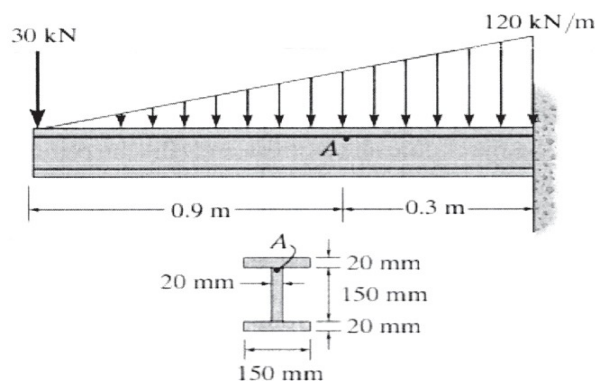

figure 5
- Q7) a)** The wide-flange beam is subjected to the loading shown in figure 5. Determine the principal stress in the beam at point A, which is located at the top of the web. Although it is not very accurate, use the shear formula to determine the shear stress. Show the result on an element located at this point. [8]